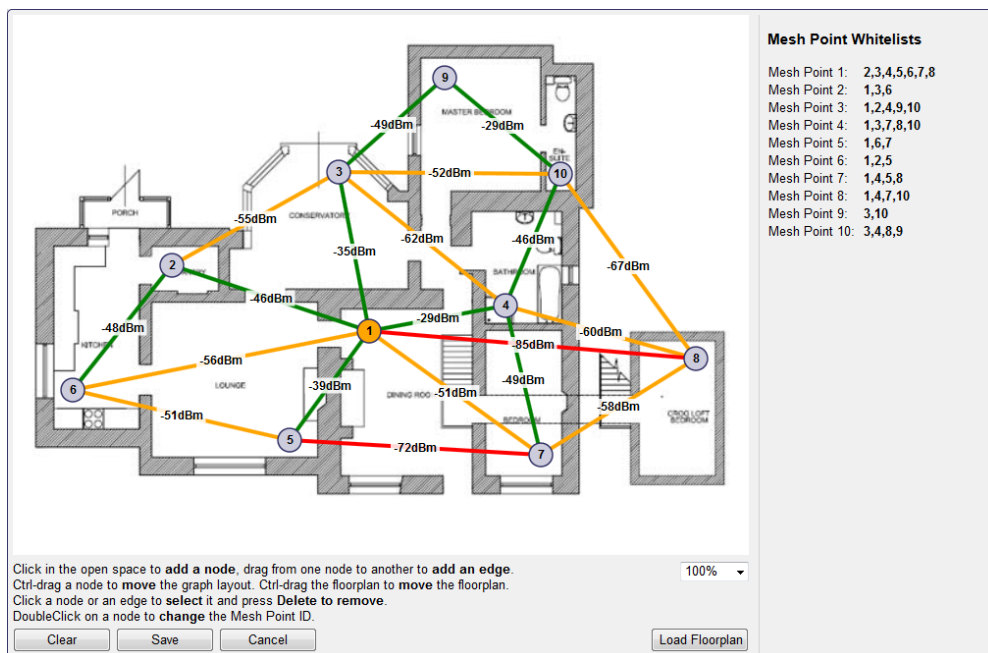
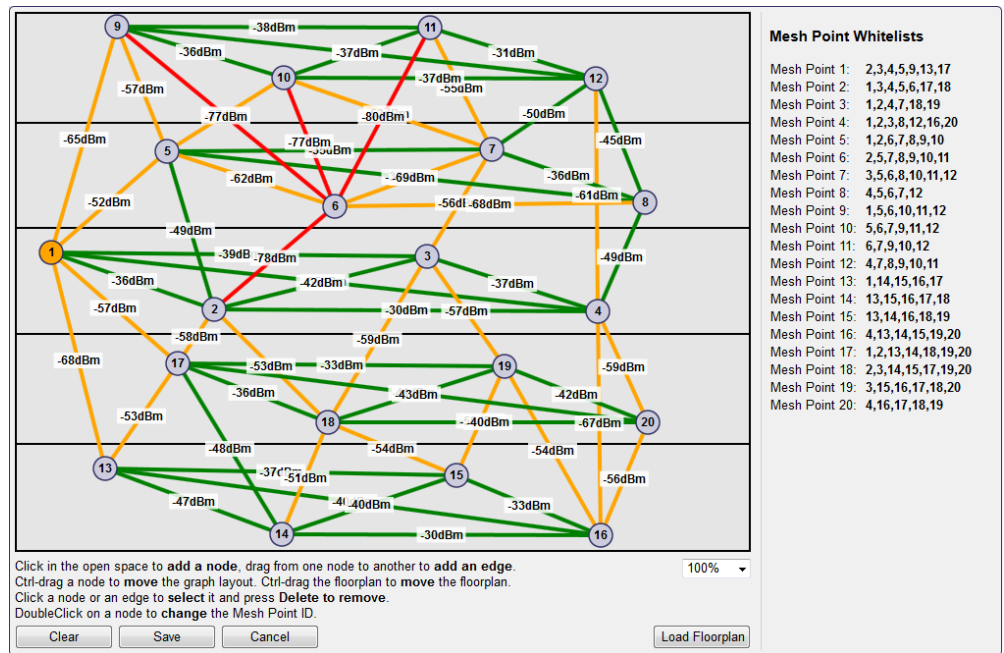

Figure 57: Mesh floorplan and online link monitor.
Figure 58: Mesh floorplan from side view and online monitor
**Mesh Graph Editor.** This is a visual editor to assist a simple configuration of whitelists in the Mesh network as shown in Figure 57 and Figure 58. Depending on the configuration of Mesh points and connections between them in the Mesh graph, the resulting whitelist for this Mesh network graph is displayed. When changing the Mesh graph this list is updated. The following operations are available:
By using a floorplan in the Mesh graph the local layout of the building can be considered when configuring the Mesh network. Figure 57 shows the Mesh network visualization using a floorplan from the top view of the building. In contrast Figure 58 shows an overview plan of a building with five floors from the side view. If Mesh network visualization over UDP has been activated, the current signal strength between the Mesh points is added to the view. The connections are colored depending on the signal strength. Green stands for a good connection over -50 dBm, orange stands for a medium connection of about -50 dBm to -70 dBm and red stands for a weak connection under -70 dBm. By looking at the color-coded connection it is fairly easy to identify weak connections and go forward to troubleshoot weak spots in the configuration.